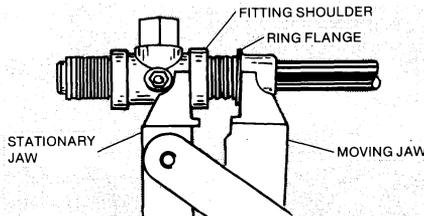
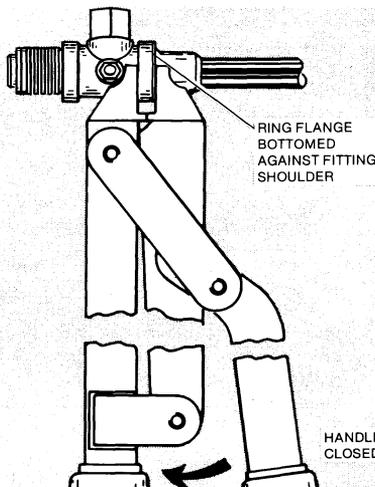

Figure 3
Figure 4
3.03 Open handles of handtool and place fitting in crimping jaws of tool with stationary jaw back of fitting shoulder and moving jaw back of ring flange. See Figure 3. Close handles until ring flange is resting against fitting. Then apply a steady, even pressure to tool handles until ring flange bottoms against fitting shoulder. (Do not "snap" tool closed.) See Figure 4.